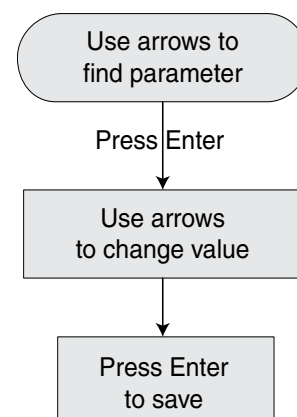

Figure 12 - Changing parameter value.
- Follow the keypress sequence shown in Figure 12:
The password locks or unlocks the blue buttons on keypad. All Pentek Intellidrive units are shipped from factory with the default password 7777. It can be changed to any other 1 to 4 digit number. To reset password to a unique password for unit, unlock keypad (see below) and follow the keypress sequence shown in Figure 12 to make the change. If installer does not press the password button, then the keypad will automatically lock 60 minutes after the Drive is powered up. The time out period is adjustable (see Table 9).